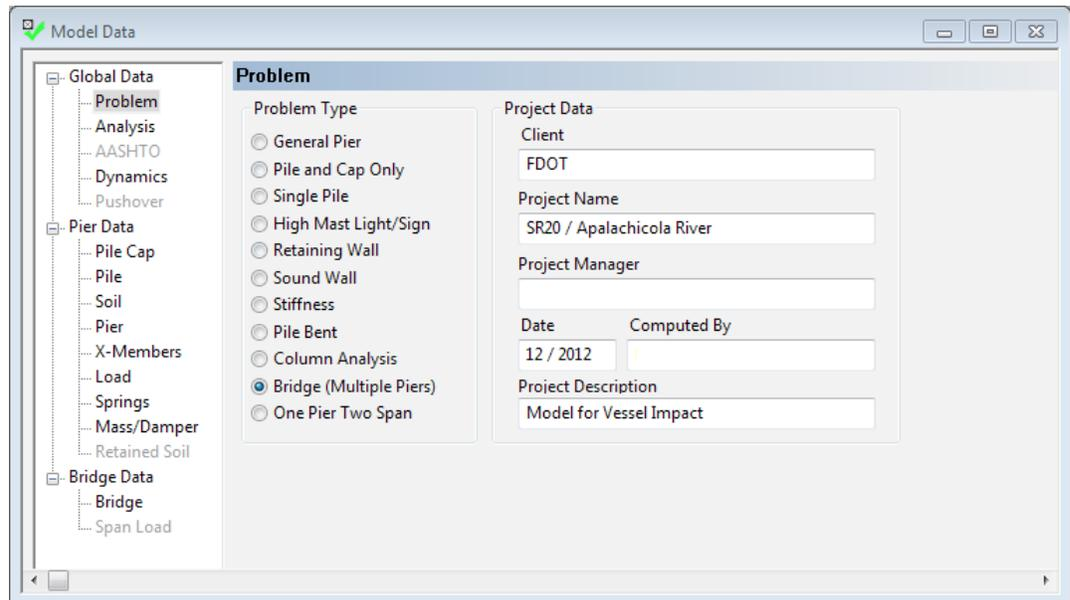

Figure 12 Problem Type Page.
1. Open the full bridge model in FB-MultiPier and navigate to the "Problem" page (**Figure 12**).